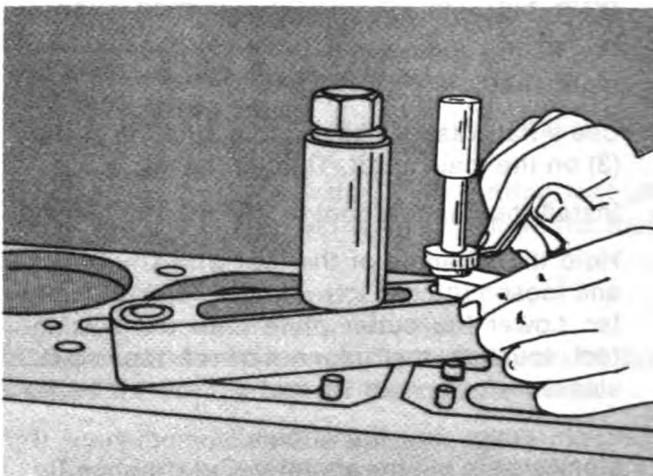

Fig. 1-31. Adjust The Depth Of The Cutter.
- Slide the stop collar down against the gauge block, Fig. 1-31. Tighten the setscrew in the stop collar.